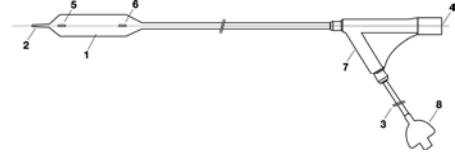

Figure 1
I. DESCRIPTION (voir figure 1)